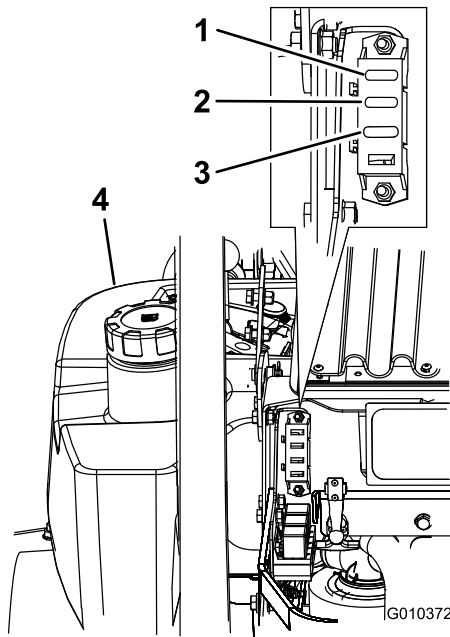

Figure 53
1. Unlatch the engine hood and raise the engine hood to gain access to fuse holder (Figure 53).
3. Install a new fuse (Figure 53).